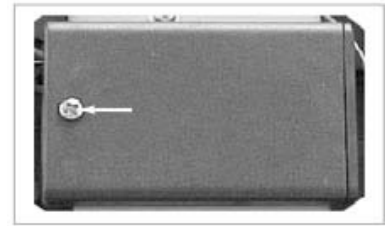

Fig. 4
- c. Release the screw from the battery chamber (Fig.4), then slide off the lid.
- d. Insert the batteries to the battery chamber according to the indications on the chamber (Fig.4).